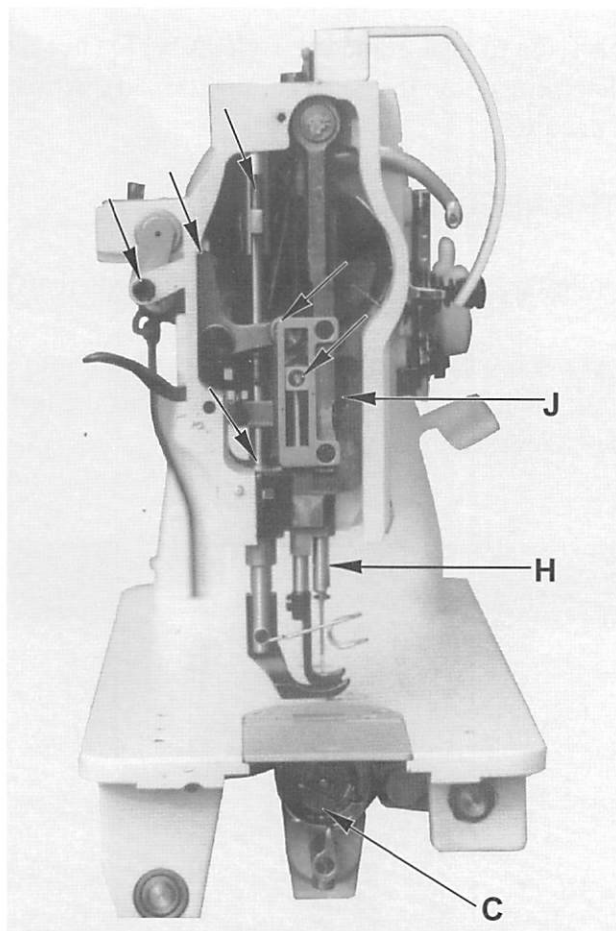
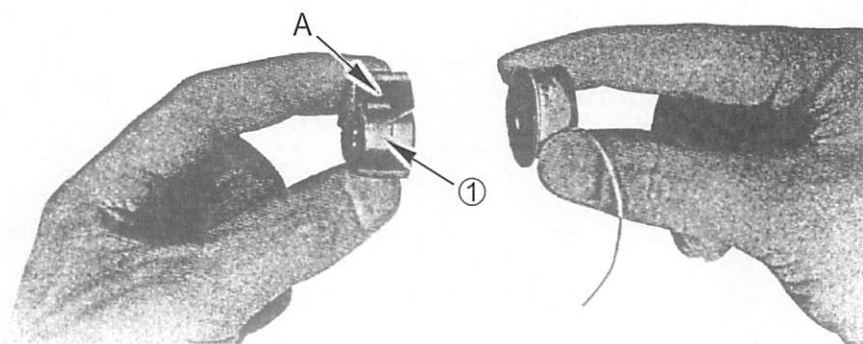

Fig. 4
Fig. 9
2. Pass left hand under table into opening on drip pan. With left thumb and index finger, open the hinged latch (C, Fig.4). And pull bobbin case and bobbin from rotary hook. While the latch is held open, the bobbin will be retained in the bobbin case. Release of the latch and turning of the open side of the bobbin case downward will cause the bobbin to drop out.
3. Hold the bobbin between the thumb and the forefinger of your right hand and pull out a length of about 5cm of thread. Holding the bobbin case in your left hand turn the open side up and place the threaded bobbin into it. (Fig.9)
4. With the right hand guide the thread into the slot in the edge of the bobbin case. Then pull the thread to the left, under the tension spring (①, Fig.9) and into the delivery eye. In order to keep the bobbin from dropping out of the case when it is turned with the open side down, always keep the hinged latch (C, Fig.4) at the front of the bobbin case open.
5. Take the threaded bobbin case by the latch (C, Fig.4) and place it on the center stud of the bobbin case holder. Release latch and press bobbin case on to center stud until the latch catches the undercut thereon with a click that can be heard. Permit about 5cm of bobbin thread to hang down freely. Be sure to push the slide plate to the right before starting to sew.
### 2.Tension of the Lower (Bobbin) thread:(Fig.9)
The lower (bobbin) thread tension is controlled by the larger screw "A" (Fig. 9) near the end of the spring at the outside of the bobbin case.